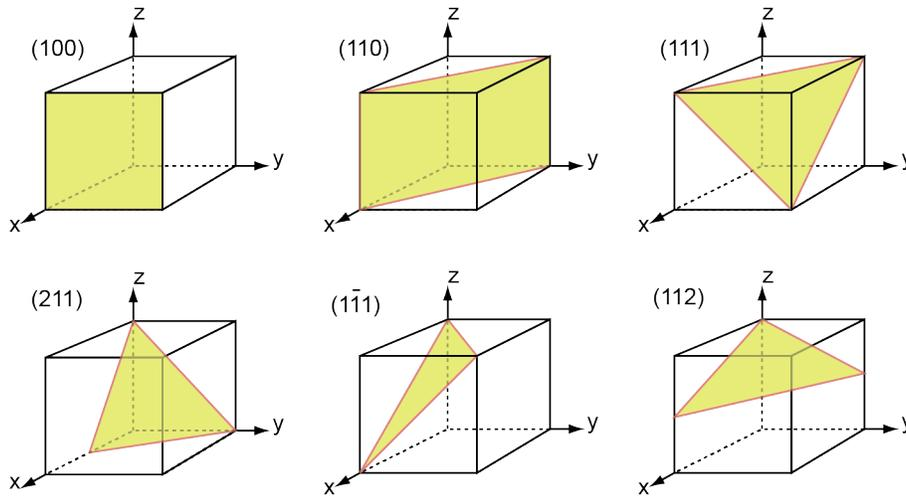

Figure C24. The procedure for finding the Miller Indices of a plane. The indices of four common planes are shown on the right.
Figure C24 illustrates how the Miller indices of a plane are found. Draw the plane in the unit cell so that it does not contain the origin – if it does, displace it along one axis until it doesn’t. Extend the plane until it intersects the axes. Measure the intercepts, in units of the cell edge-length, and take the reciprocals. (If the plane is parallel to an axis, its intercept is at infinity and the reciprocal is zero.) Reduce the result to the smallest set of integers by multiplying through to get rid of fractions or dividing to remove common factors. The six little sketches show, in order, the (100), the (110), the (111), the (211), the (111) and the (112) planes; the 1 means that the plane intercepts the y-axis at the point -1. Check that you get the same indices.